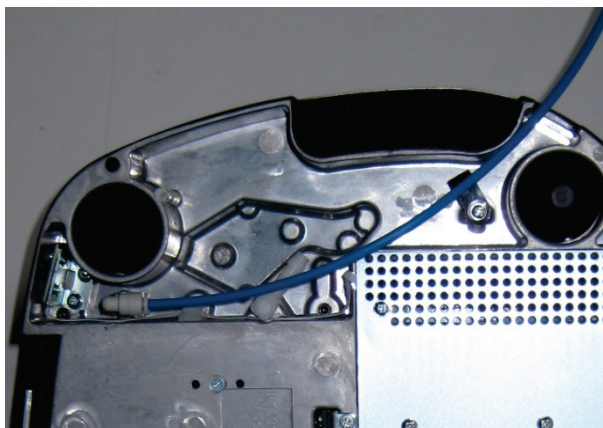

Figure 91 Tubing connected to instrument purge inlet port
5. Using a Philips-type, PZ No 1 screwdriver, undo the screws securing the main board compartment cover to the instrument and remove the cover (Figure 91).